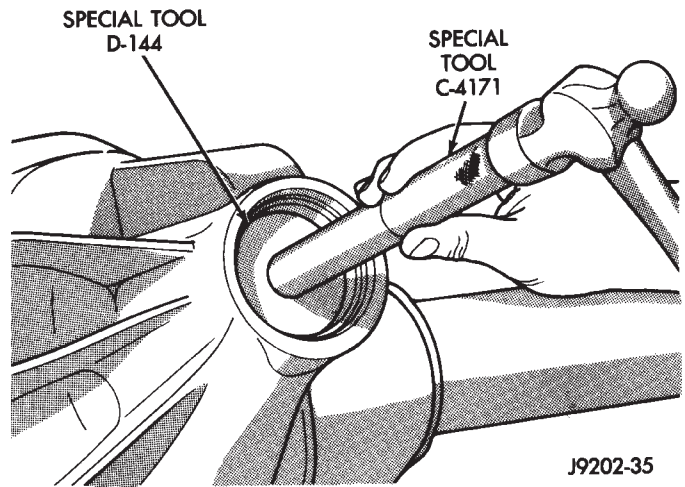

Fig. 50 Pinion Front Bearing Cup Installation
(2) Install the pinion front bearing cup with Installer D-144 and Handle C-4171 (Fig. 50).